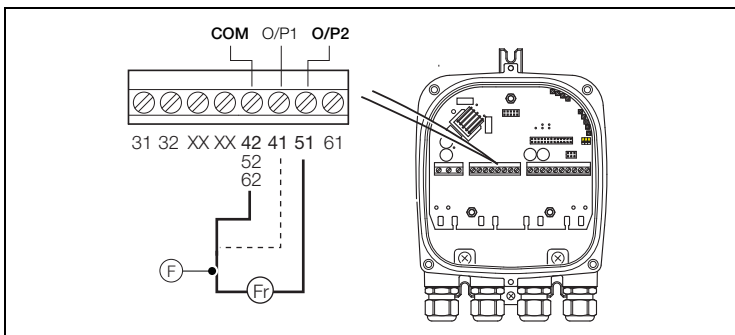

Fig. 3.14 Connecting a Frequency Counter to Pulse Output 2
10. Referring to Fig. 3.14 – connect a frequency counter across pulse output 2 (F).